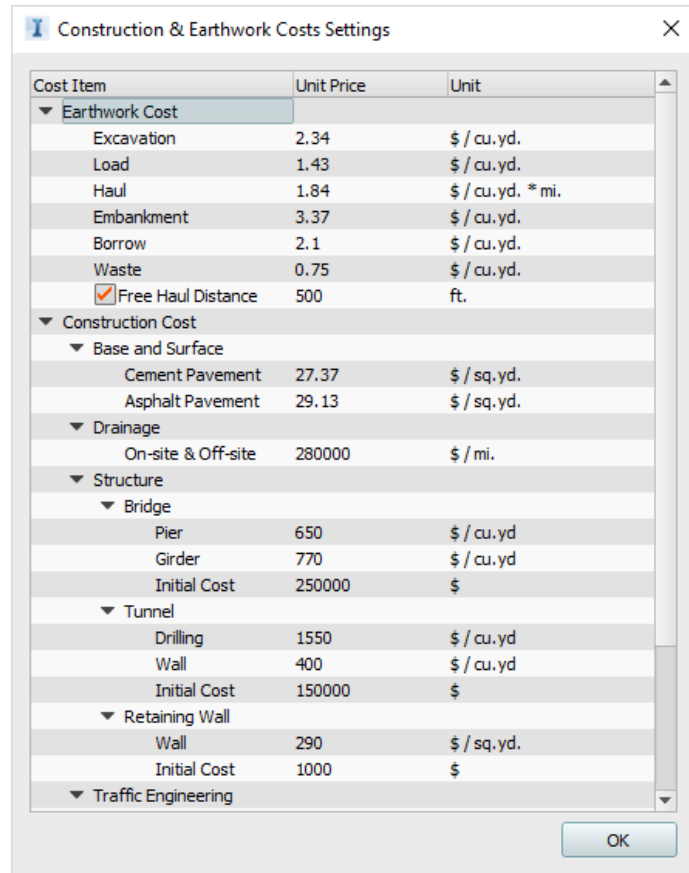

Figure 15 - Construction & Earthwork Costs Settings
- **Construction & Earthwork Cost** – The construction and earthwork cost section is where the cost values for different aspects of the design can be specified. These costs include things such as Excavation, Pavement, Drainage, Bridges/Tunnels, and more. See Figure 15 for an example of the costs settings.